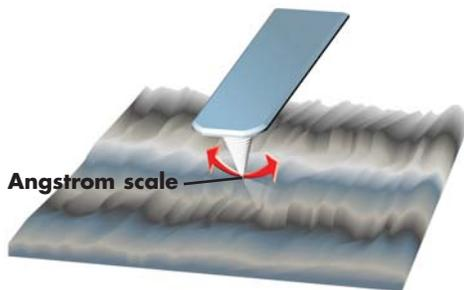

Figure 7. TRmode is a technique that uses torsional oscillations of an AFM probe.
- **TRmode:** Maps lateral forces and force gradients. Interleaves with TappingMode for complementary lateral and vertical characterization (Figure 7).